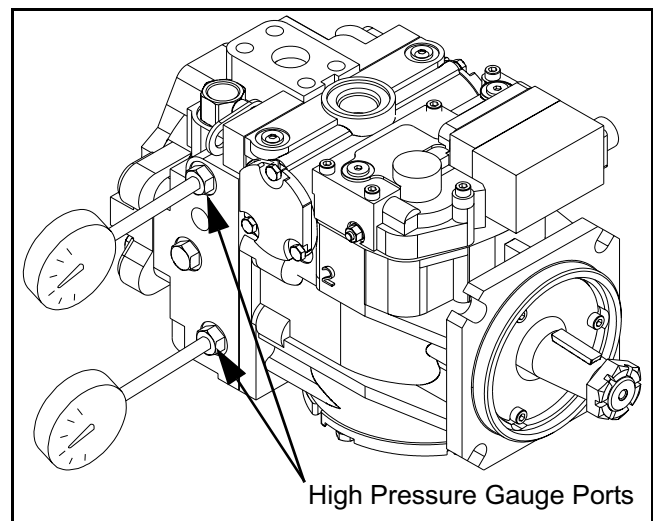

Figure 5 - 1 Install Pressure Gauges
- 2) Install two 10,000 PSI pressure gauges in the high pressure gauge ports. (Figure 5 - 1)